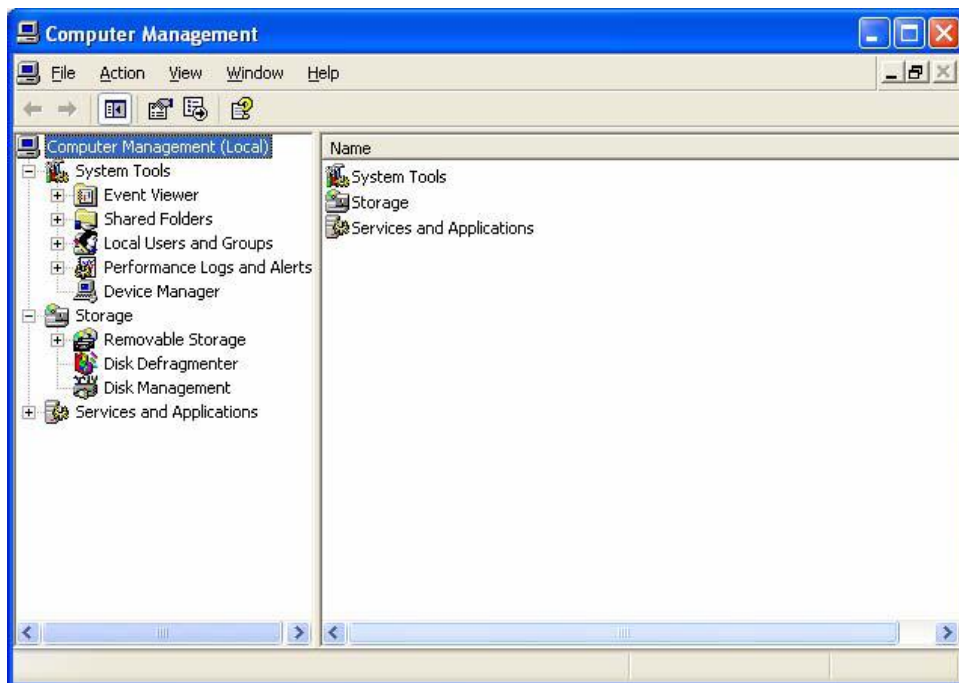

Figure 4: Computer Management Interface
2. Select **Manage** from the drop-down list. This will open the **Computer Management** interface as shown in Figure 4.